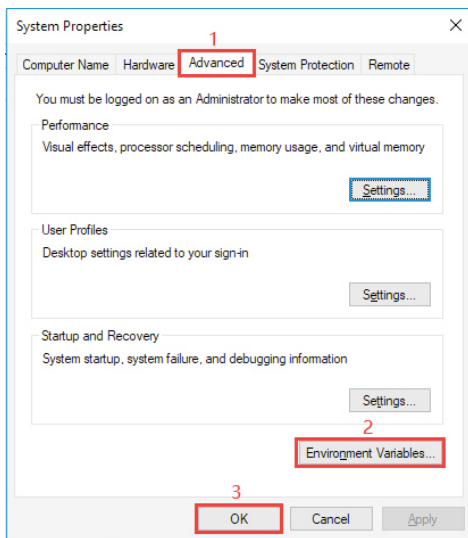
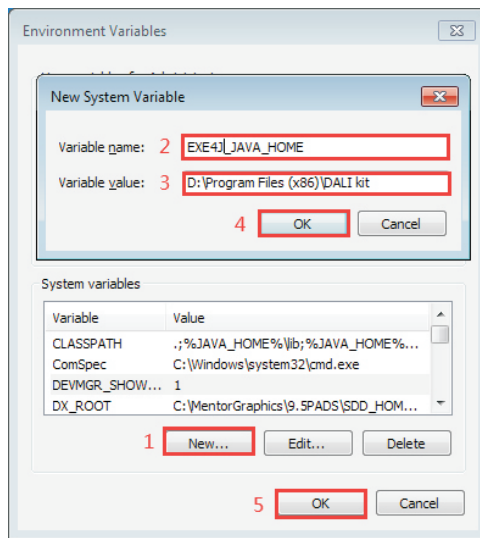

Figure 7 System Properties Window
Figure 8 Environment Variables Setting Window
Step 1: right click the computer icon  on the desktop, select "Properties", then "Advanced system settings" to open the system properties setting window as shown in **Figure 7**:
Step 2: switch to “Advanced” tab, then click button “Environment Variables” to open the environment variables setting window as shown in **Figure 8**:
Step 3: Click “New” button, the parameter setting window will pop-up, Variable name must be set as “EXE4J_JAVA_HOME”, Variable value should be set as the installation path of the software (the parameter in **Figure 8** is just for your reference), then click “OK” one by one to go back to the window in **Figure 7**, then click “OK” to save the environment variables setting.